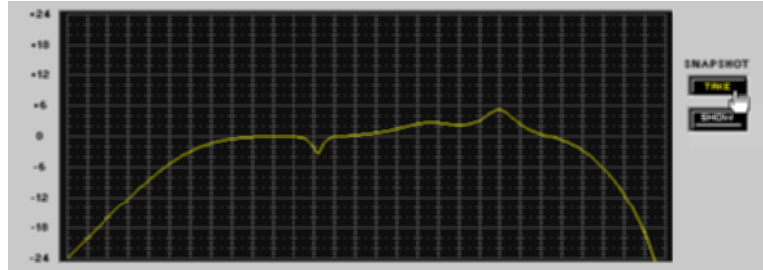

Figure 24 – Taking a Snapshot
1. Click the [TAKE] button, as shown in figure 24. This captures the current response or transfer curve.